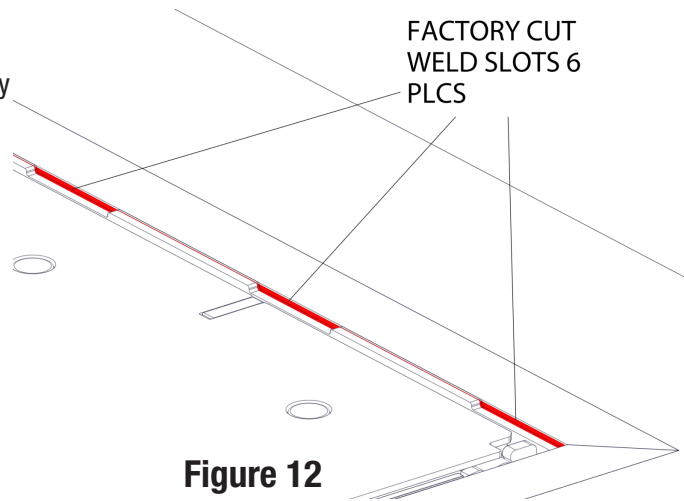
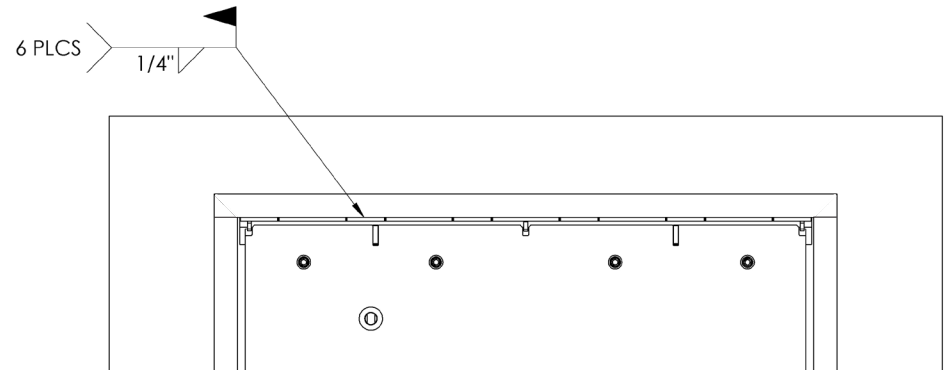

Figure 12
Figure 11
2. Weld leveler to the rear curb angle using the factory cut welding slots, as shown in **Figure 11** and **Figure 12**.